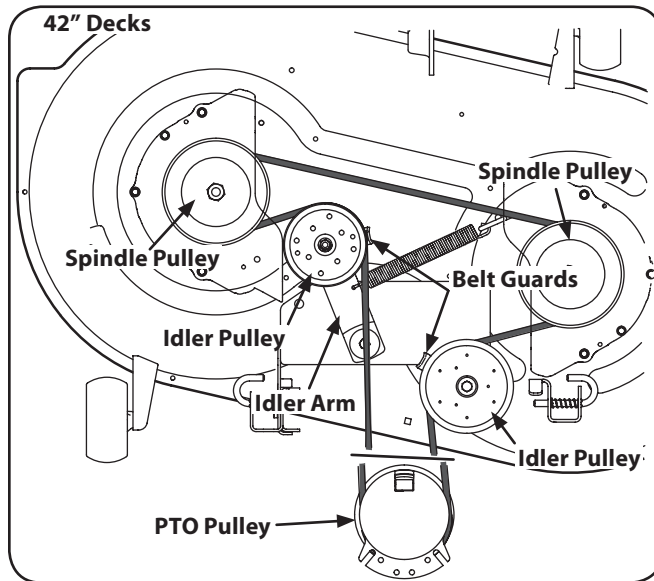
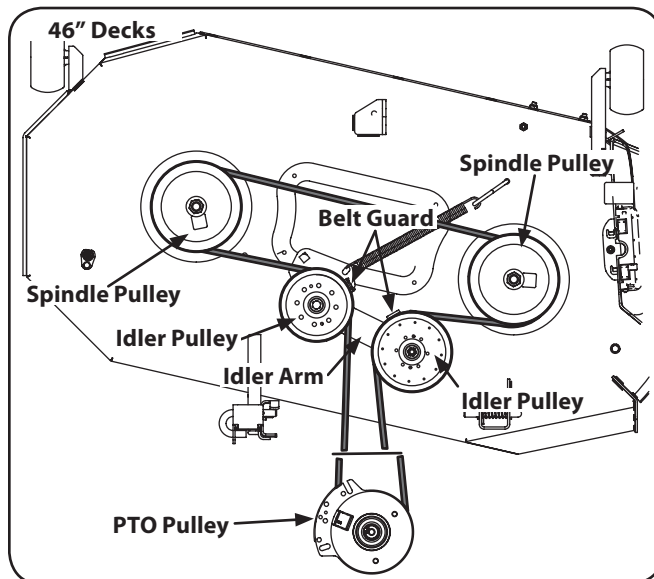
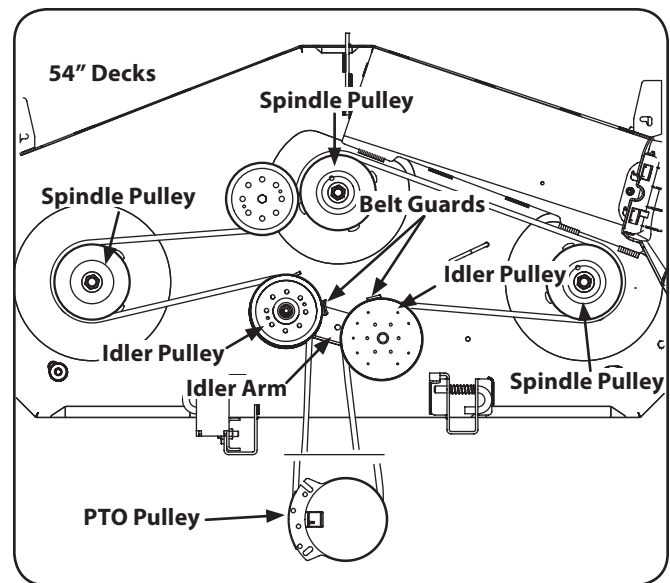

Figure 7-8
Figure 7-9
Figure 7-10
2. Loosen, but do not remove the hardware on the right and left idler pulley. Refer to Figure 7-8 for 42" decks, Figure 7-9 for 46" decks and Figure 7-10 for 54" decks.